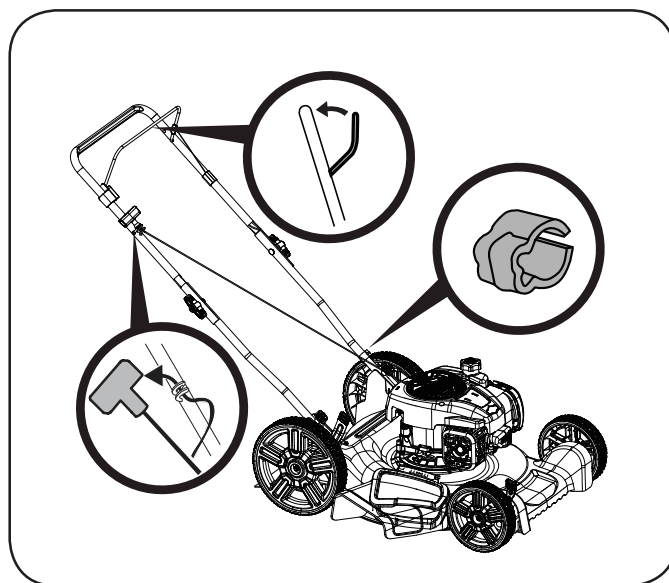

Figure 5
1. Hold the blade control handle against the upper handle (Figure 5)
2. Slowly pull starter rope handle from engine and slip starter rope into the rope guide (Figure 5).
3. Use the cable clamp to secure the control cable to the handle (Figure 5).